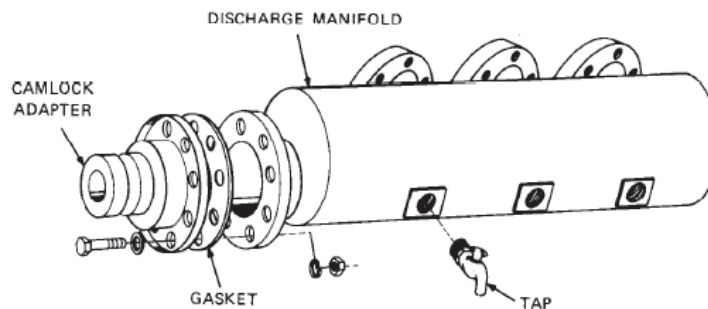

Figure 8 Heavy Duty Discharge Manifold
- c. Remove and discard the gasket (Figure 8).
- a. Position a new gasket on the discharge manifold water outlet (Figure 8).